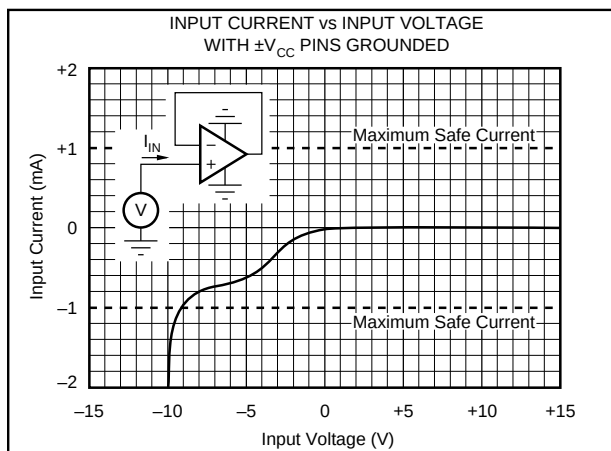

FIGURE 2. Input Current vs Input Voltage with $\pm V_{CC}$ Pins Grounded.
NOTES: (1) Packages must be derated based on $\theta_{JC} = 30^{\circ}\text{C}/\text{W}$ or $\theta_{JA} = 120^{\circ}\text{C}/\text{W}$. (2) For supply voltages less than $\pm 18\text{VDC}$ the absolute maximum input voltage is equal to: $18\text{V} > V_{IN} > -V_{CC} - 8\text{V}$. See Figure 2. (3) Short circuit may be to power supply common only. Rating applies to $+25^{\circ}\text{C}$ ambient. Observe dissipation limit and T_J .
Unlike BIFET amplifiers, the *Difet* OPA404 requires input current limiting resistors only if its input voltage is greater than 8 volts more negative than $-V_{CC}$. A 10kΩ series resistor will limit the input current to a safe value with up to $\pm 15V$ input levels even if both supply voltages are lost. (See Figure 2 and Absolute Maximum Ratings).